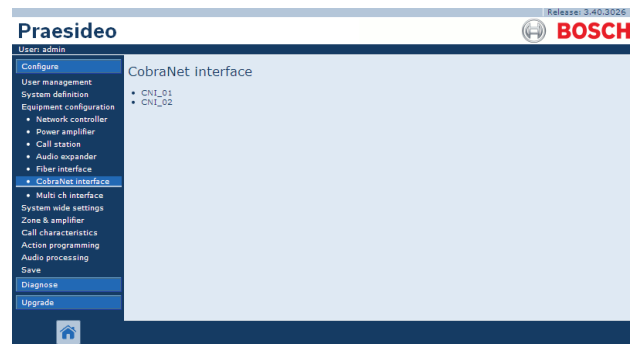

figure 43.33: Configure CobraNet interface step 1
- 1 Go to *Configure > Equipment configuration > CobraNet interface*. A screen similar to the one in figure 43.33 appears in the main frame of the web interface.